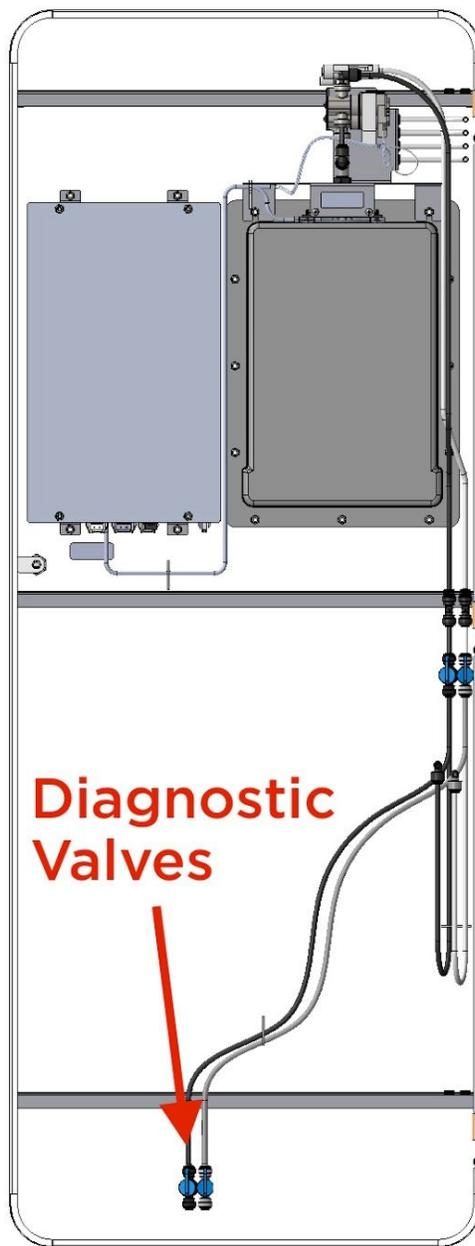

Figure 2: New diagnostic valves in the door of the Bevi
- Two diagnostic valves (water line and sparkling line) attached to the bottom of the door should remain closed and are only to be used for troubleshooting and to drain the buffer tank (see Figure 2).